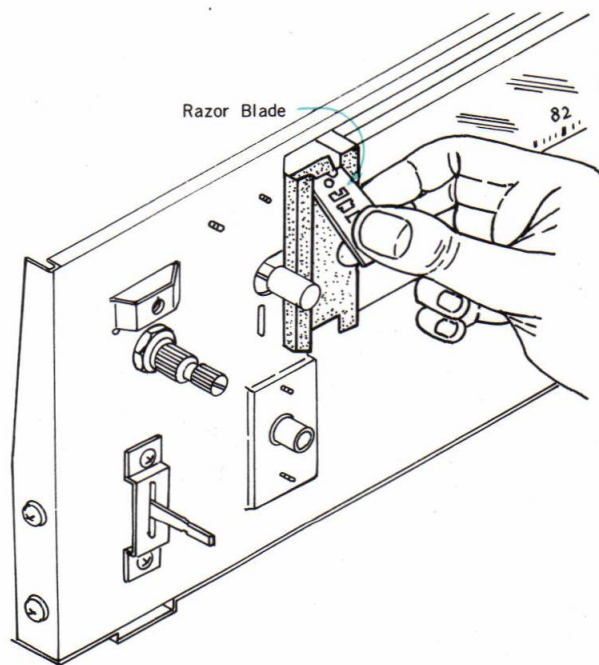

Fig. 2-5 Dial glass lamp replacement
2. Apply a few drops of cement solvent around the fiber lamp shade top and cut through the weakened cement with a razor blade. See Fig. 2-5.